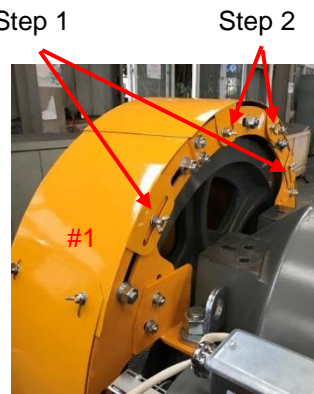

Figure 2 - Install Main Guard & Sheave Brake Cover
**Step 2:** If applicable, Install Sheave Brake Cover [#8] to Rope Retainer and Main Sheave Guard [#1] using (3) wing bolts, lock washers, and flat washers. See Figures 2 and 3.